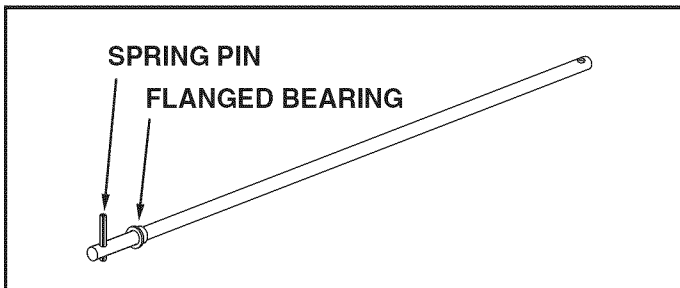

FIGURE 2
- Using a hammer, drive a spring pin into a hole in the axle until the pin just slightly extends through the other side of the axle. Next, assemble a flanged bearing onto the axle as shown. See figure 2.